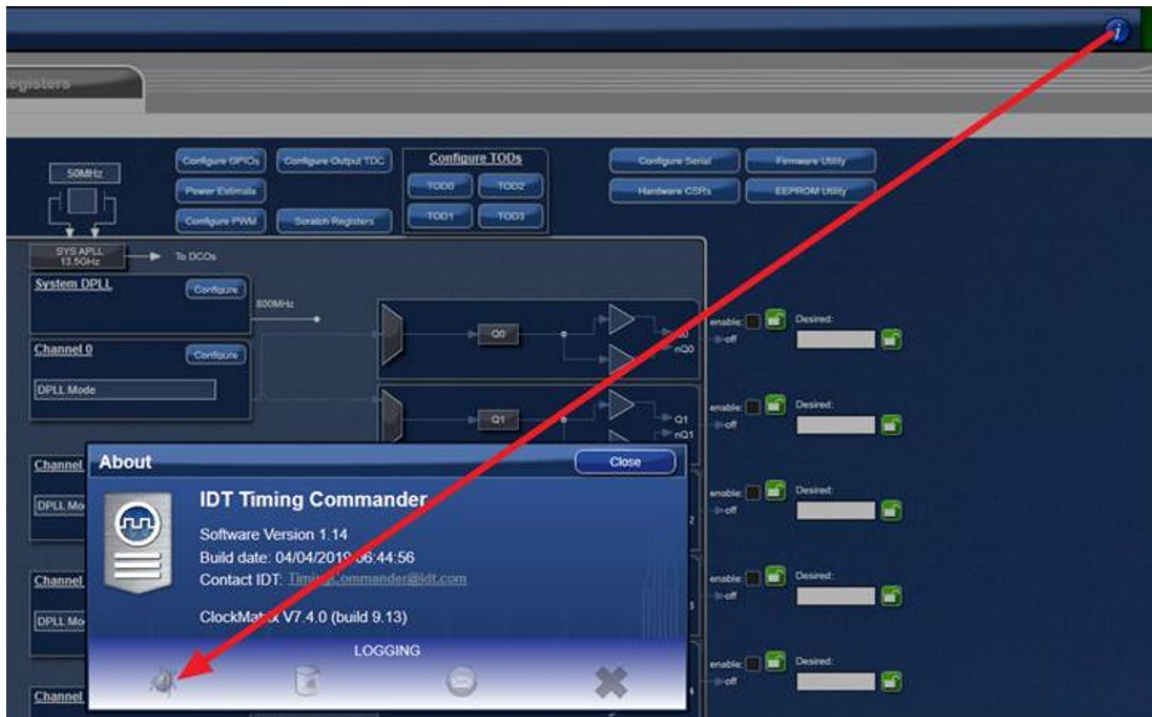

Figure 5. Open Timing Commander Debug Window
3. Open the Timing Commander Debug Window, as shown in Figure 5.